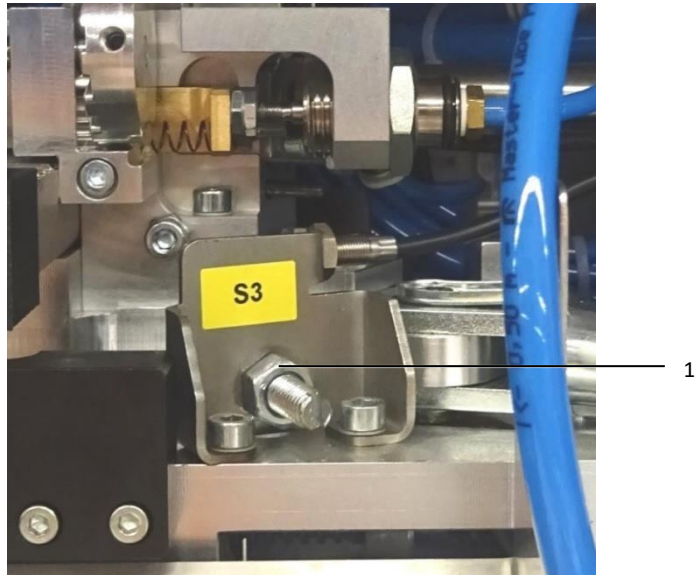

Fig. 34: Sleeve holding unit attachment
- Loosen the nut (fig. 34, item 1)